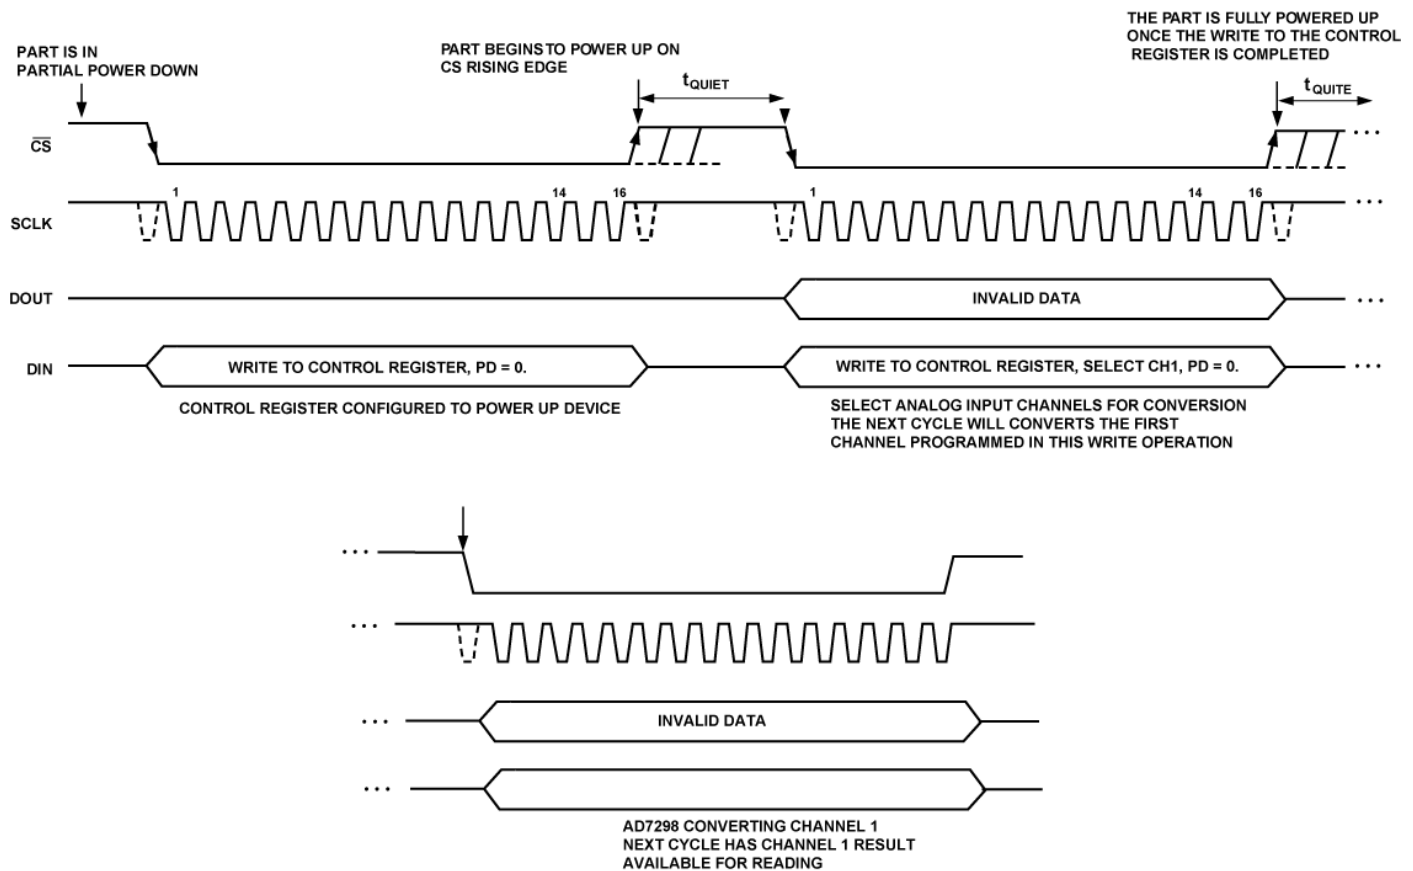

Figure 7. Partial Power Down Mode of Operation
The AD7298 remains in partial power-down until the power-down bit, PD, in the control register is changed to a logic level zero (0). The AD7298 begins powering up on the rising edge of  $\overline{\text{CS}}$  following the write to the control register disabling the power-down bit. Once  $T_{\text{QUITE}}$  has elapsed, a full 16-SCLK write to the control register must be completed to update its content with the desired channel configuration for the subsequent  $\overline{\text{CS}}$  conversion. A valid conversion is then initiated on the next  $\overline{\text{CS}}$  falling edge. Since the AD7298 has once cycle latency, the first conversion result after exiting partial power-down mode is available in the fourth serial transfer as shown in Figure 7; 1st cycle to update PD bit, 2nd cycle to update configuration and Channel ID bits, 3rd to complete conversion, 4th access  $\text{D}_{\text{OUT}}$  valid result. The use of this mode enables a reduction in the overall power consumption of the device.